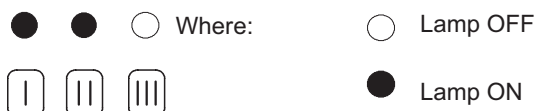

Figure 8.13
- 6 Press the reset button D repeatedly (2 times) until the lamps F give the indication as in Figure 8.13 (boiler mode).